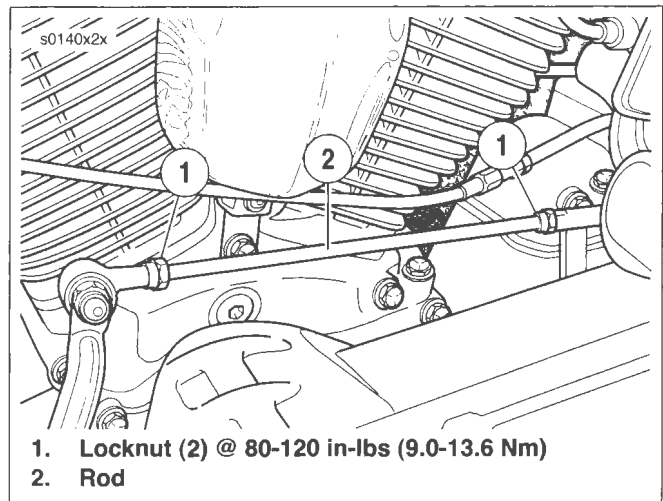

Figure 7-2. Shifter Rod
1. See Figure 7-2. Disconnect one end of shifter rod.
2. Loosen locknuts (1). Adjust rod (2) as necessary and connect loose end of shifter rod.